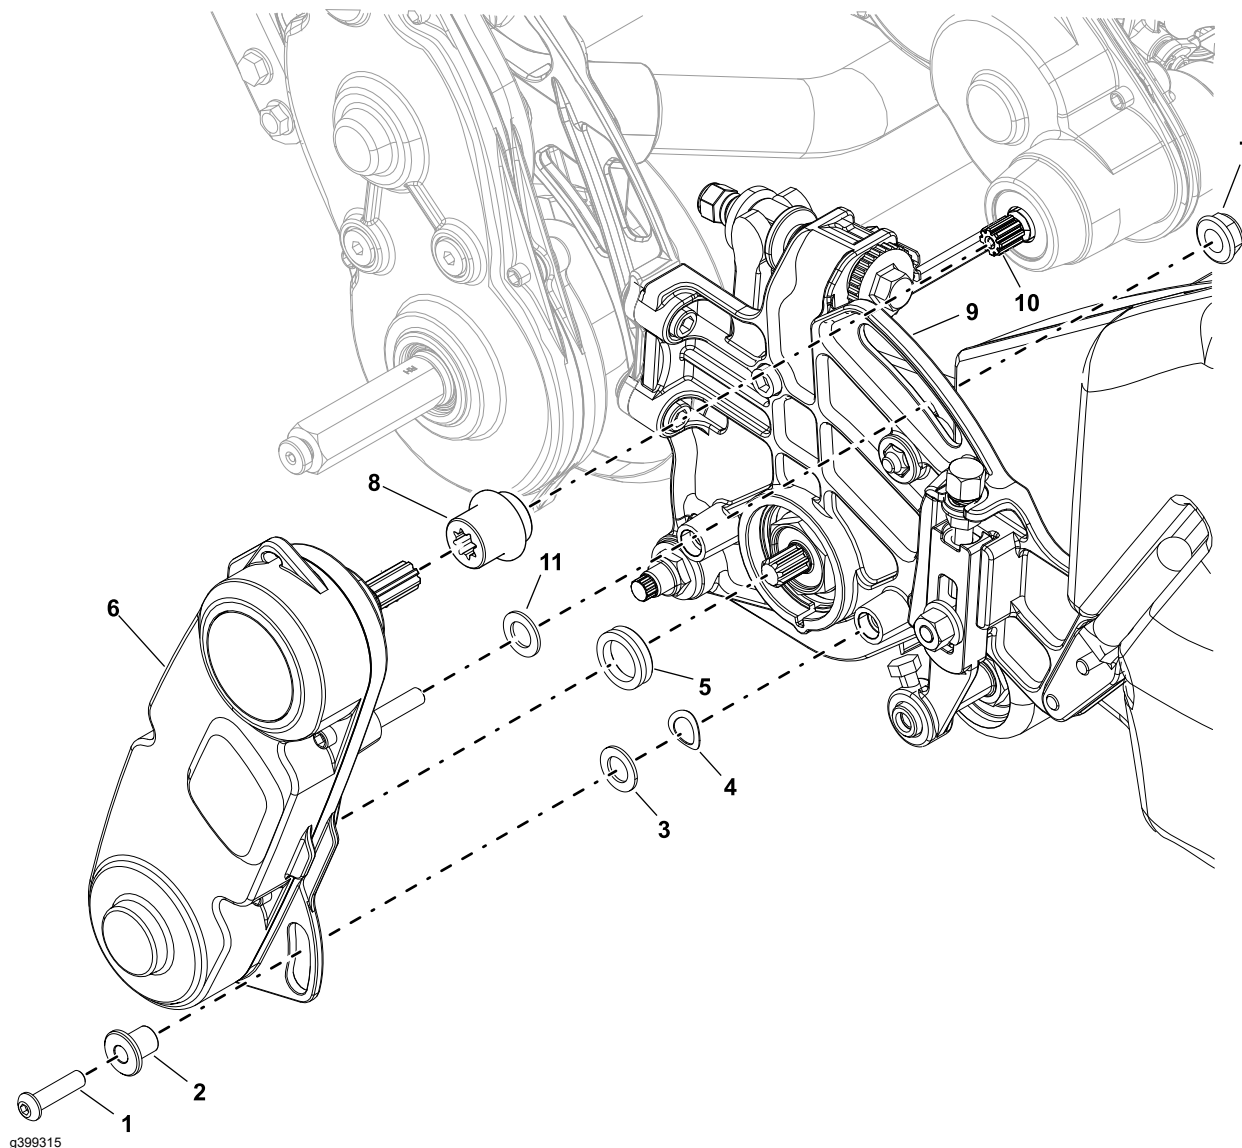

Figure 15
Note: Refer to Figure 15 during this procedure.
3. Slide the telescopic coupler (item 8 in Figure 15) on the reel drive assembly (6) and disconnect the reel drive shaft from the transmission drive shaft (10).